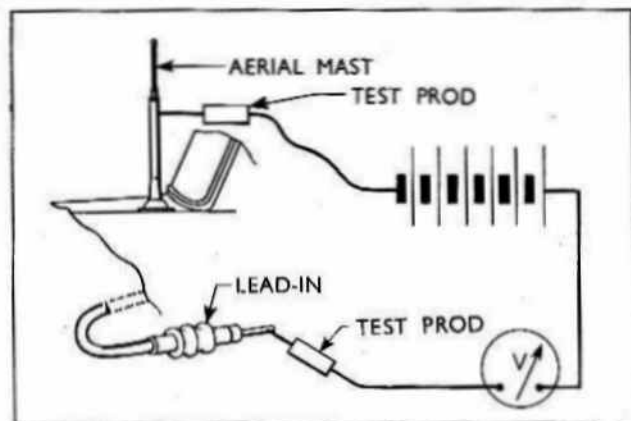

Fig. 592
- 1 With the lead-in still disconnected from the receiver touch one test prod to the centre contact of the plug (see Fig. 592).